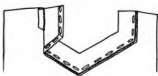

FIGURE 112
*Fitted Facing* (Figure 112). — A fitted facing is used on edges that have sharp corners or curves. Using the edges of the article to be faced as a pattern,